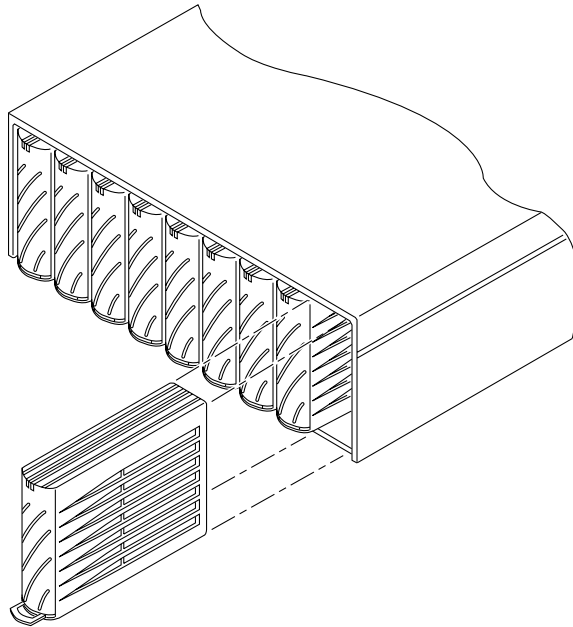

FIGURE 5-5 Removing a Disk Drive
6. Remove the disk drive from the array. See FIGURE 5-5.